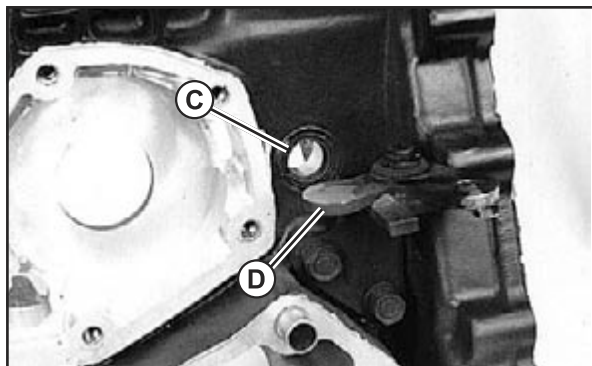

Fig. 68, Differential Shaft Port
5. Replace differential lock shaft seal (C). (Fig. 68)